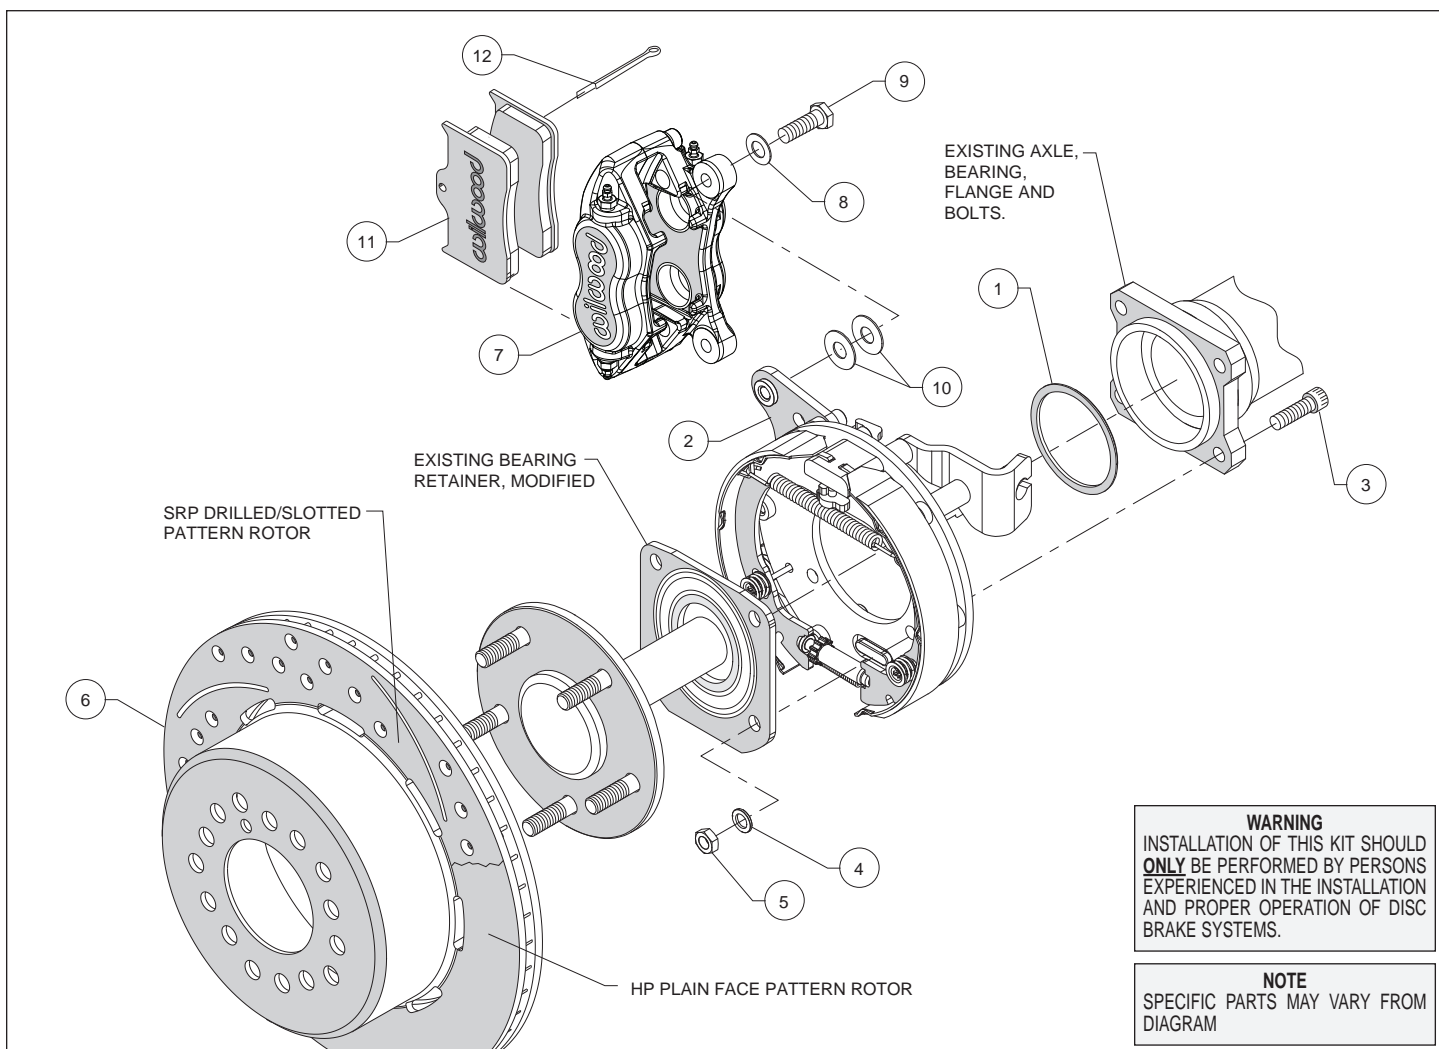
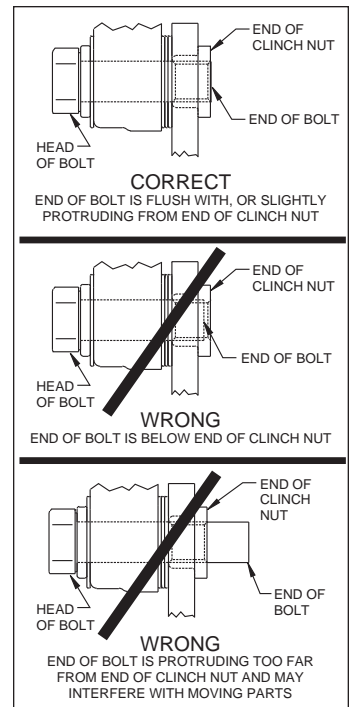

Figure 1. Typical Installation Configuration
Figure 5. Clinch Nut Engagement Diagram
Assembly Instructions (numbers in parenthesis refer to the parts list, and Figure 1 on the preceding pages): **CAUTION:** All mounting bolts must fully engage clinch nuts. Be sure to check that all bolts are either flush or protruding through flanged side of clinch nut after shimming, Figure 5.
- With the bearing retainer in place, slide the caliper mounting bracket assembly (2) onto the axle as shown in Figure 1 and Photo 1. Install axle shim (1) over axle shaft with bearing chamfer facing toward the axle housing, as shown in Photo 2.
and the bearing retainer is flush with the backing plate. Secure OEM bearing retainer using bolts (3), washers (4) and lock nuts (5), as shown in Figure 1. Hex nuts (5) and washers (4) that retain the caliper mounting bracket assembly (2) should be on the wheel side of the bracket, Figure 1. Torque nuts to 40 ft-lbs.
- Align the correct hole pattern in the rotor/hat (6) with the stud pattern on the axle flange and slide into place, Figure 1 and Photo 3. **NOTE:** The rotor/hat must fit flush against the axle flange or excessive rotor run out may result. Install three lug nuts (finger tight) to keep the rotor/hat assembly in place while continuing with the installation. **NOTE:** Some OEM and after market axles come with stud sizes larger than 0.50" diameter. Verify stud size and have a qualified machine shop drill the bolt circle of the hat/rotor to the correct stud size, if necessary.
- NOTE:** Please reference the caution statement at the beginning of the assembly instructions. Mount the caliper (7) onto the caliper mounting bracket (2) using bolts (9) and washers (8), as shown in Figure 1. Initially place two .035" thick shims (10) on each bolt between the caliper and the bracket, Photo 4. Temporarily tighten the mounting bolts and view the rotor (6) through the top opening of the caliper. The rotor should be centered in the caliper, Photo 5. If not, adjust by adding or subtracting shims between the bracket and the caliper. Always use the same amount of shims on each of the two mounting bolts. **NOTE:** The end of each bolt must be flush with or slightly protruding from the head of the clinch nut, as shown in Figure 5. If necessary place spare shims between washer (8) and caliper mounting ear to achieve the proper clinch nut engagement. Once the caliper alignment and clinch nut engagement are correct, remove the bolts one at a time, apply red *Loctite*® 271 to bolt threads, and torque to 40 ft-lb.